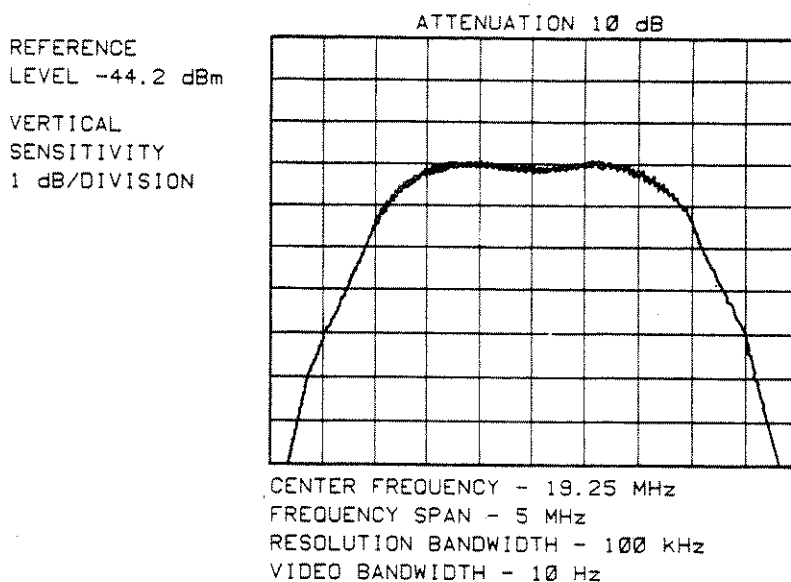

Figure 8-8. 20 MHz IF Output
- Adjust the reference level to set the peak of the passband to the third horizontal graticule line from the top. Center the 20 MHz IF passband on the spectrum analyzer display. Verify that the passband is 3 to 5 MHz wide as measured from the lower 3 dB point to the upper 3 dB point and is flat to within 1 dB as measured between the center frequency minus 1 MHz and the center frequency plus 1 MHz. Verify that the center frequency of the passband is 19.5 ± 0.5 MHz. See Figure 8-8.